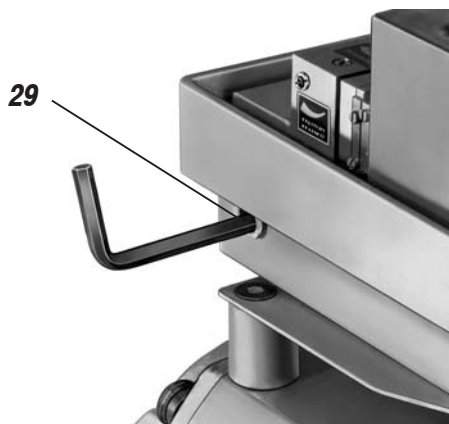

Fig. 24: Tightening the feedback lever
- g) Final mounting of the feedback lever **9** on the shaft of the positioner is performed at a stroke of 0 %, i. e. a rotation angle of 0°. First loosen the 5 mm A/F Allen screw of the feedback lever **9** through the hole **29** (see Fig. 24 and 25), then press the stroke factor lever **31** against the stop screw **30** and tighten the Allen screw firmly.